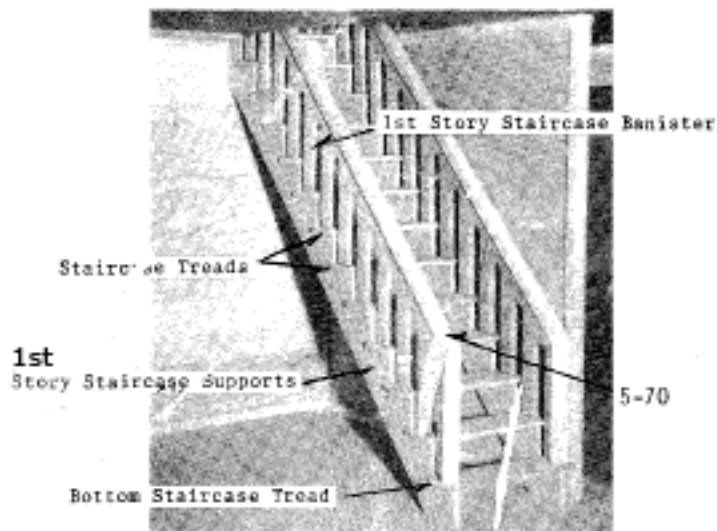

Figure 30
5. Before installing the 1st story banister, add Small Edge Trim (5-70) to the edges for a handrail. Figure 30.